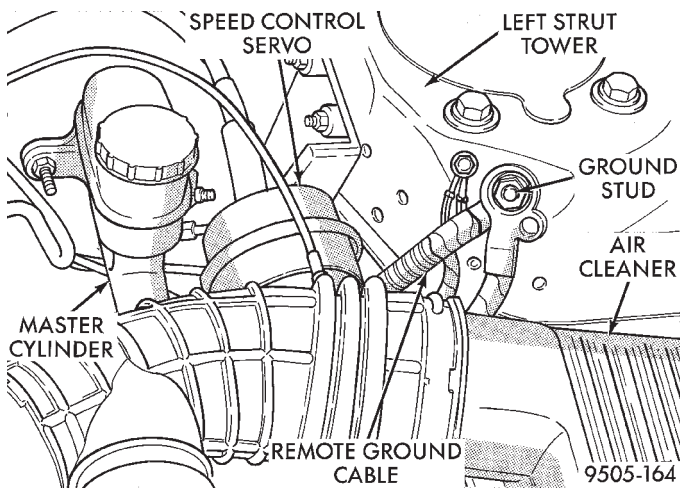

Fig. 53 Ground Cable Attachment At Strut Tower
- (1) Remove the remote ground cable from the ground stud located on the left strut tower (Fig. 53).